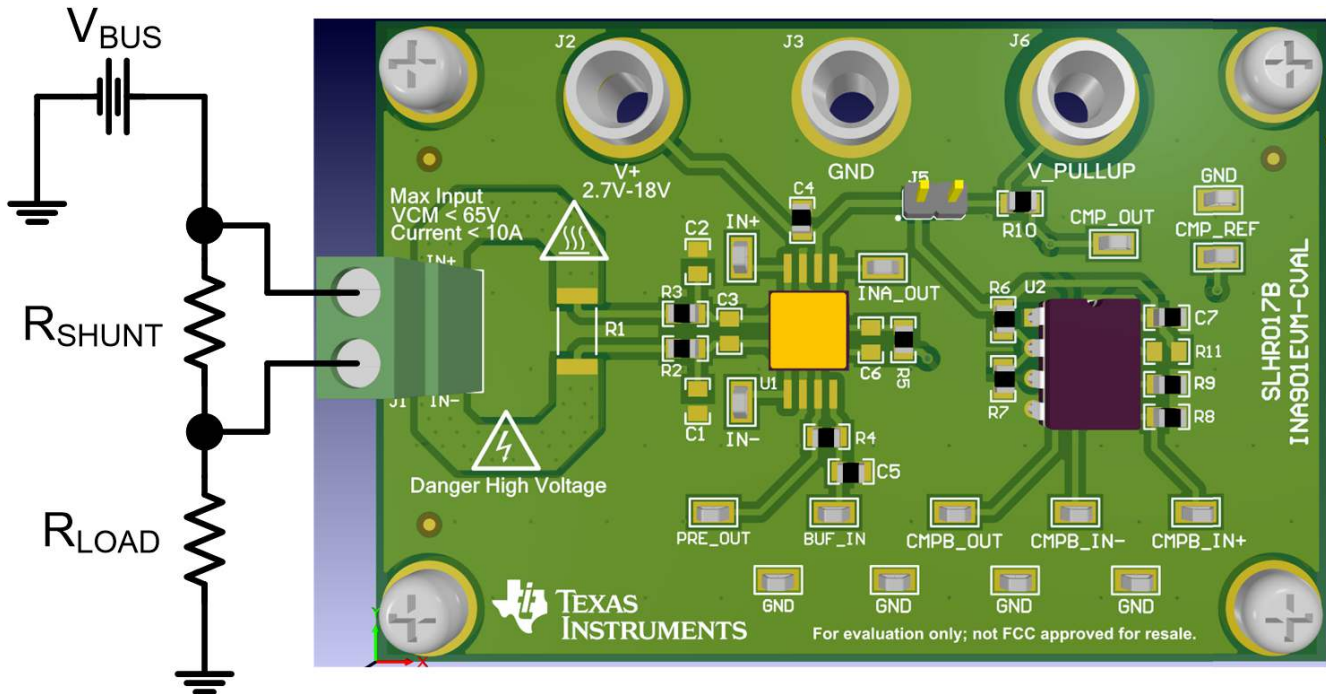

Figure 2. High-Side Setup Using An External Shunt Resistor
- Step 2. Connect the positive and negative terminals of J1 with the load and bus voltage sources while powered off. Figure 2 shows the correct connections for a high-side application using this method. Ensure that you make the connections such that the sensing location is directly across the shunt, and there will be no high current on the sensing path. See TI Precision Labs - Current Sense Amplifiers: Shunt Resistor Layout for additional information.